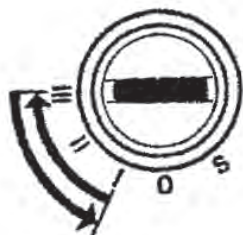

Figure A5: Ignition Switch START Position
5. After 20 seconds, turn key switch to START position and hold until engine starts. DO NOT hold in START position for more than ten seconds. See Figure A5. **Note:** If one of the designated engine batteries fails to start its respective engine, engage the “EMERGENCY START” switch at the helm and attempt to start the engine.